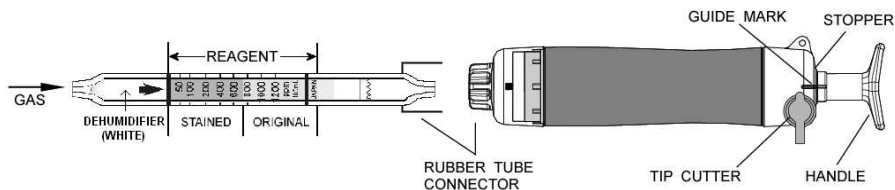

Fig.1
- ② Insert the detector tube into the aspirating pump securely as shown in Fig.1. (Arrow mark shall point to the pump.)
- ③ Align the guide marks on the shaft and stopper of the aspirating pump.
- ④ Pull the pump handle at a full stroke until it locks and wait for 1.5 minutes or until the completion of sampling is confirmed with the flow indicator of the pump (See descriptions about the flow indicator in the instruction manual of the pump).
- ⑤ On completion of sampling, read the scale at the maximum point of the stained layer.
- ⑥ When the concentrations are below the scale range, 2 pump strokes can be used to determine these lower concentrations. Then multiply the reading value by 0.4.